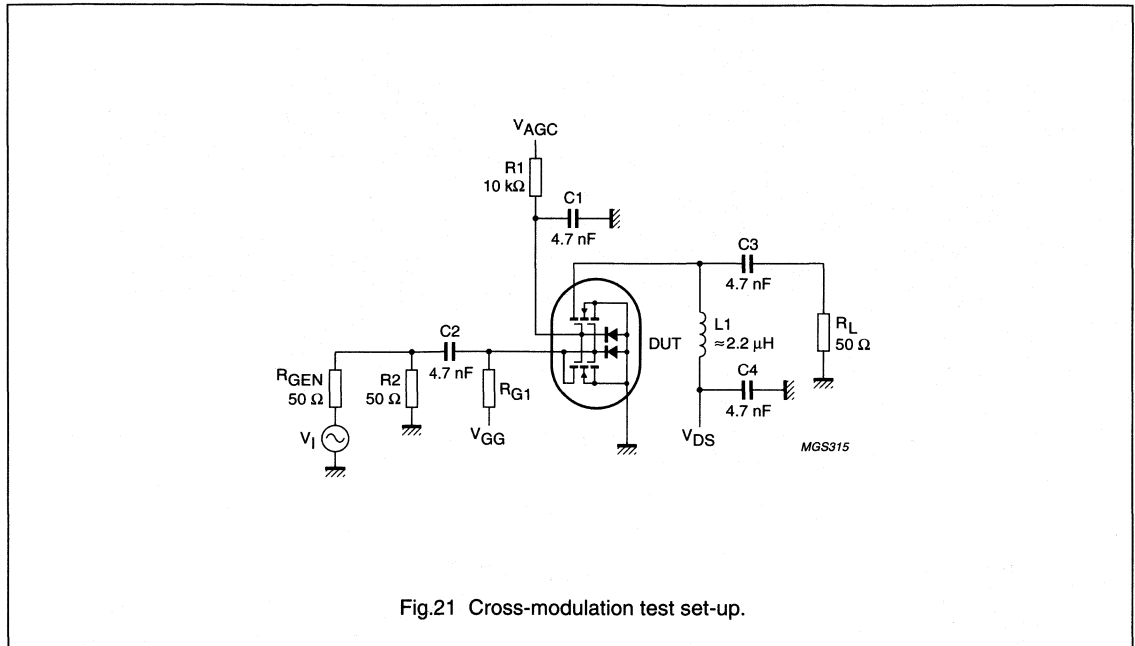

Fig.21 Cross-modulation test set-up.
- R_{G1} connects G_1 to $V_{GG} = 5\text{ V}$; see Fig.21.
- Measured in test circuit of Fig.21.
$R_{G1} = 120 \text{ k}\Omega$ (connected to V_{GG}); see Fig.21.
R_{G1} connected to V_{GG} ; see Fig.21.